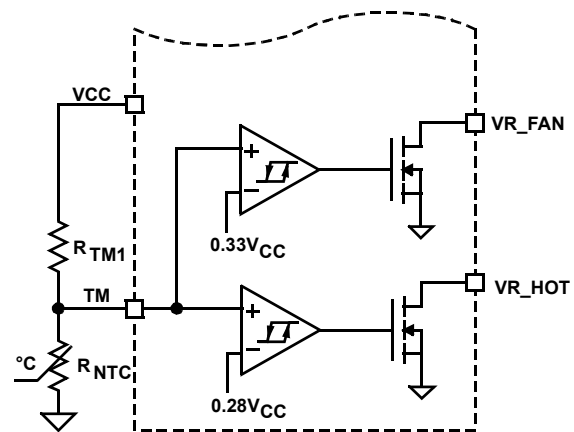
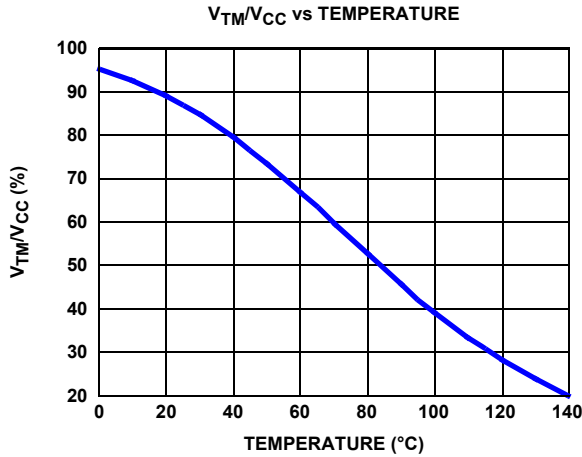

FIGURE 11. BLOCK DIAGRAM OF THERMAL MONITORING FUNCTION
FIGURE 12. THE RATIO OF TM VOLTAGE TO NTC TEMPERATURE WITH RECOMMENDED PARTS
The diagram of thermal monitoring function block is shown in Figure 11. One NTC resistor should be placed close to the power stage of the voltage regulator to sense the operational temperature, and one pull-up resistor is needed to form the voltage divider for the TM pin. As the temperature of the power stage increases, the resistance of the NTC will reduce, resulting in the reduced voltage at the TM pin. Figure 12 shows the TM voltage over the temperature for a typical design with a recommended 6.8k Ω NTC (P/N: NTHS0805N02N6801 from Vishay) and 1k Ω resistor R_{TM1} . We recommend using those resistors for the accurate temperature compensation.
Based on V_{CC} voltage, ISL6326 converts the TM pin voltage to a 6-bit TM digital signal for temperature compensation. With the non-linear A/D converter of ISL6326, the TM digital signal is linearly proportional to the NTC temperature. For accurate temperature compensation, the ratio of the TM voltage to the NTC temperature of the practical design should be similar to that in Figure 12.
1. Properly choose the voltage divider for the TM pin to match the TM voltage vs temperature curve with the recommended curve in Figure 12.